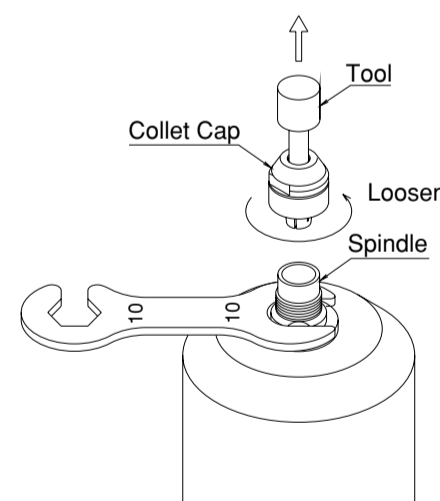

Fig. 4
- ① Loosen the collet cap, according to the "Mounting Tool" section, until it comes off. Remove the collet cap from the spindle with the tool. (Fig.4)